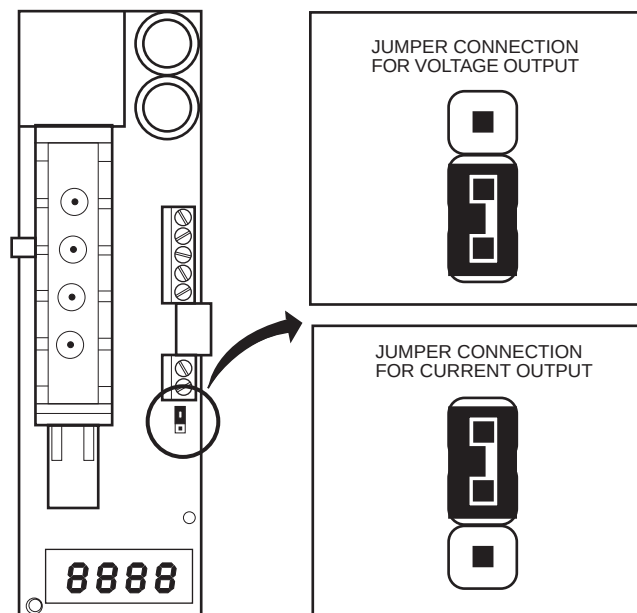

Fig. 16 — Indoor Air Quality Sensor Configuration
- NOTE: The IAQ sensor must be set for current output (4 to 20 mA), not voltage output. Ensure the jumper on the sensor is in the upper position. See Fig. 16.